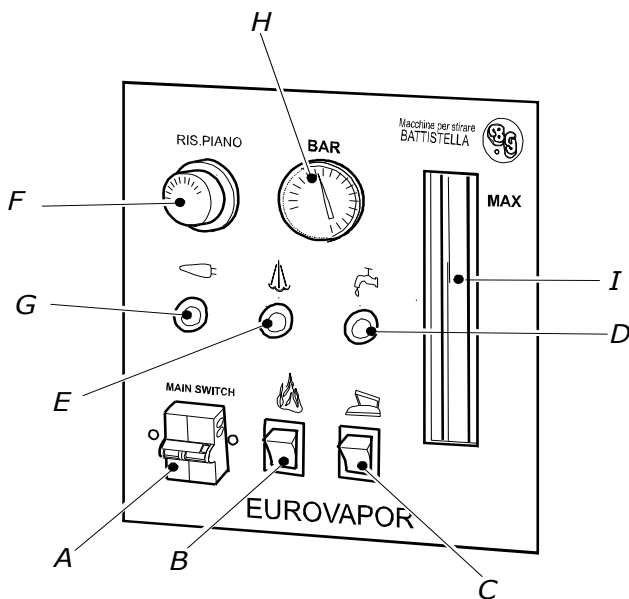

Fig. 2
1. Unscrew the safety valve plug (fig. 1) and fill the boiler with water to the desired level by using a funnel, paying attention not to exceed MAX level marked on the sight glass (fig. 2). Take the plug by the plastic part and screw it again: do not tighten too much or its gasket might get ruined (see section 7). **N.B. make sure the exhaust tap of the boiler is closed (fig. 1).**
3. Switch on the main switch and the boiler (fig. 2 A and B) and set the board thermostat on 80/90° (fig. 2 F). Five minutes later switch on the iron (fig. 2 C) and adjust the thermostat (fig. 3) on "cotton".
4. Wait for the boiler lamp to switch off (fig. 2 E). Seize the iron by the cork handle and press the red micro-switch 4 or 5 times (fig. 4), so that steam comes out. It is important to make sure it is a saturated steam (by pressing the micro switch with the iron pointed downwards). You can adjust the steam flux by turning the knob placed on the solenoid valve (fig. 1). Now everything is ready for ironing. During normal ironing operation, the boiler lamp switches on and off (fig. 2 E).
When the water in the boiler is finished, the "water missing" pilot lamp switches on (fig. 2 D). Unplug the machine, unscrew the safety valve plug just slightly (360°) (fig. 1) so that all the steam comes out (manometer on 0 BAR). Completely unscrew the valve plug with care and wait at least 5/10 minutes.
Then fill the boiler with water (fig. 5) making sure not to exceed MAX level (point 4.1). Screw the valve plug again (fig. 1), turn on the machine and wait for the boiler lamp to switch off (fig. 2 E). Now the iron is ready again.